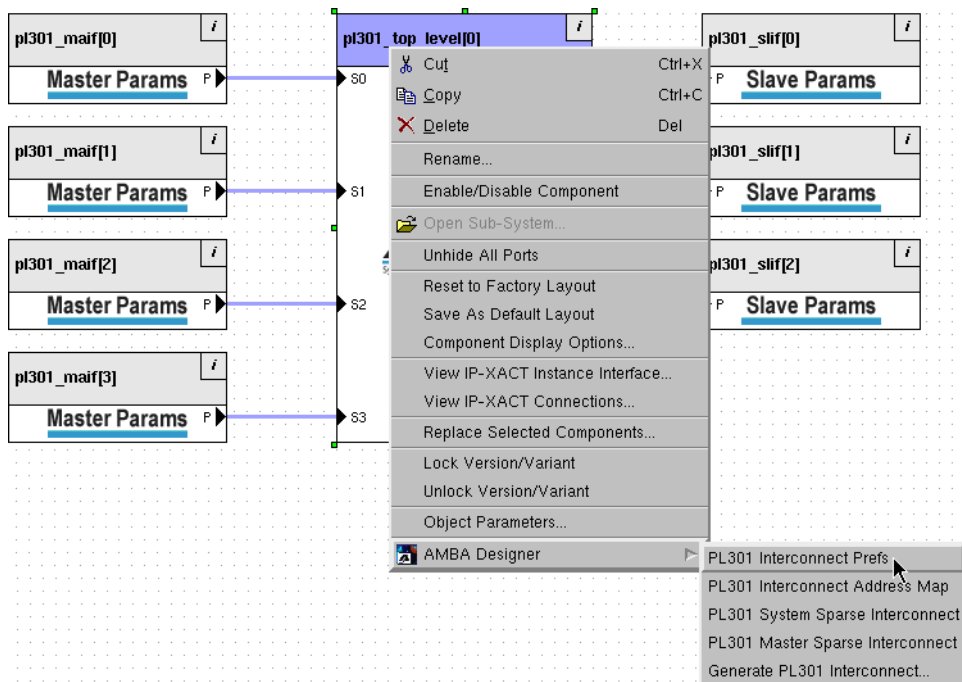

Figure 4-43 PL301 Interconnect Prefs selection
2. Select **AMBA Designer** → **PL301 Interconnect Prefs** from the context menu, as Figure 4-43 shows.